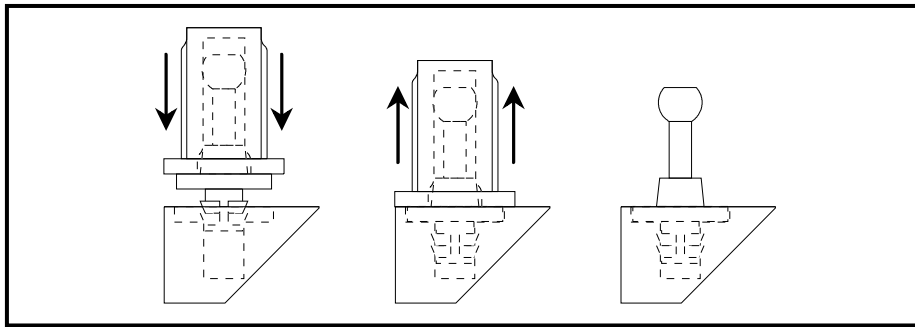

Figure 2.6 - Installing grille pin into TRANSCENDENT grille frame. Note that after installation, the grille pin flange is flush with the surface of the
- Place the exposed end of the grille pin in the open mounting hole. Check to insure that the grille cloth is not trapped between the pin and frame. Use a small hammer and gently tap the new grille pin in place. Then, pull the insertion tool off the new pin and verify that the pin flange is flush with the surface of the grille. Please refer to Figure 2.6.